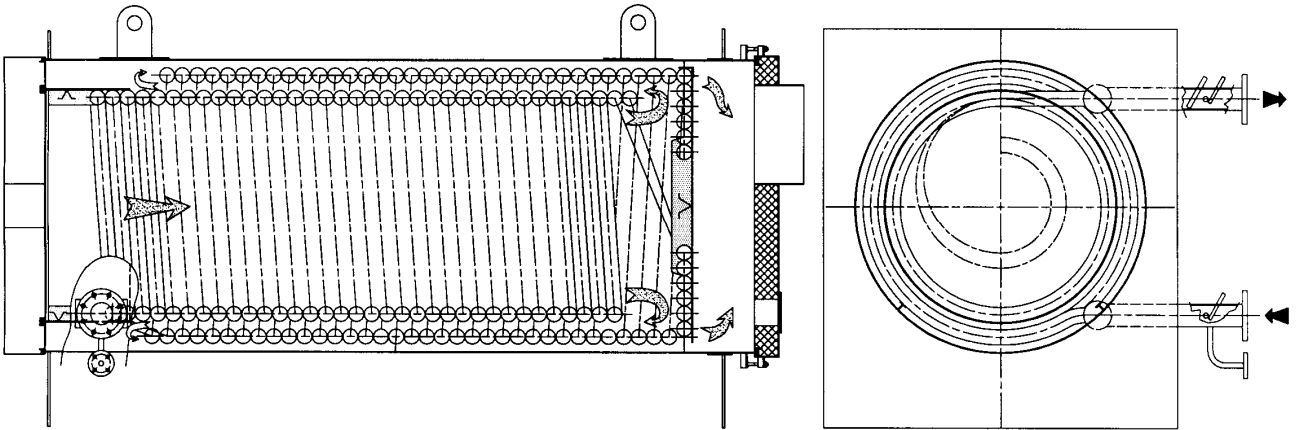

Fig. 1
- With capacity 100.000 - 8.000.000 kcal/h (Fig. 1)